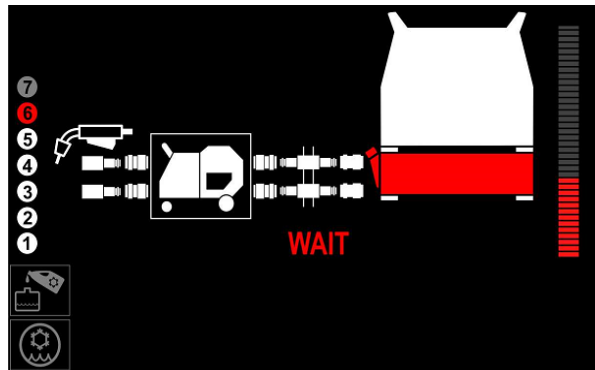

Figure 19
- Wait until the coolant fully circulates through the cooling system - (Figure 19 or 27).